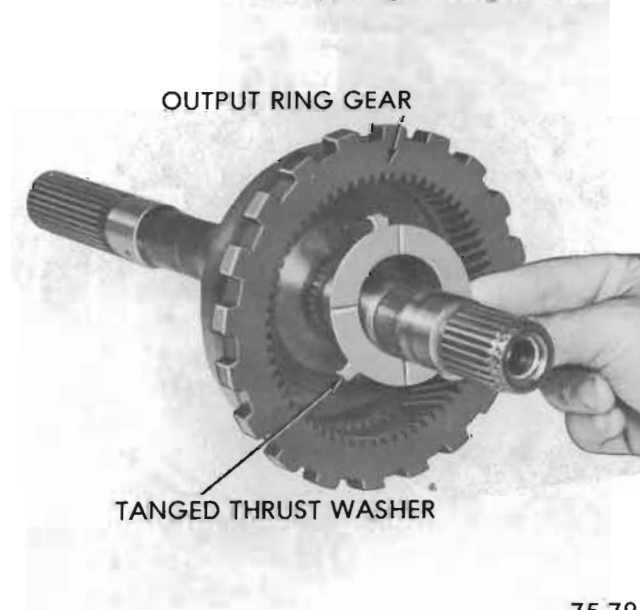

Figure 75-228
2. Install reaction carrier to output ring gear tanged thrust washer. Washer has three (3) tangs see Figure 75-228.